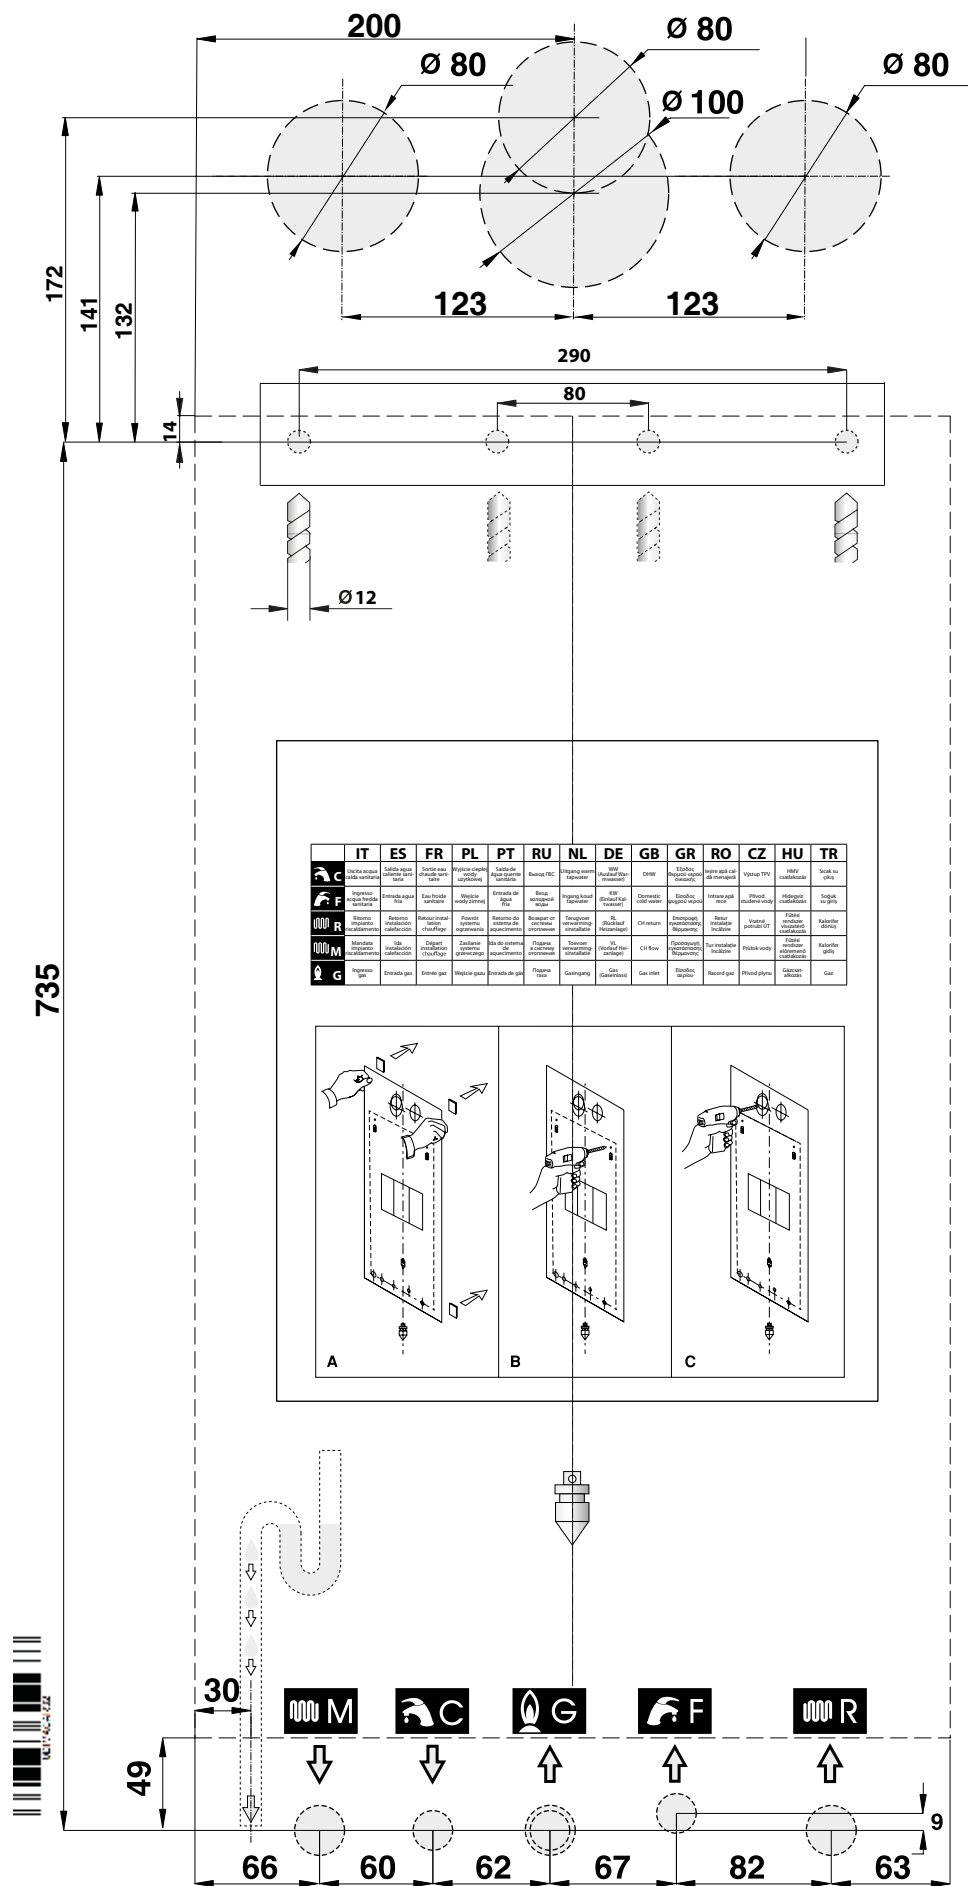

Fig. 5 Paper template
- » the template for mounting the boiler on a wall (see Fig. 5 Paper template);
Each boiler is supplied with a paper template, found inside the packaging (see Fig. 5 Paper template).